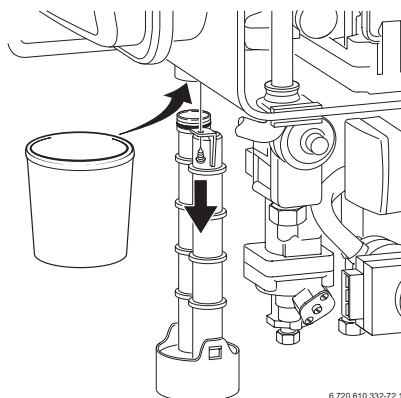

Fig. 48
- Unscrew condensation trap and place suitable container underneath. Refer to fig. 48.
In order to prevent spillage of condensate the condensation trap should be completely removed, (see page 38, fig. 48).